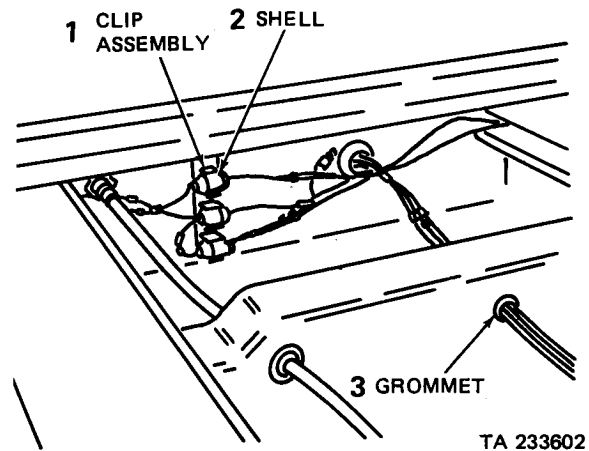

Figure 4-21. Electrical connections at rear of front crossmember (M127 and M127A1)
- (1) Clearance light cables (M127 and M127A1) (figs. 4-21 and 2-22).
- (a) Disconnect connector shell (2) from clip (1).
- (c) Remove grommet from connector shell (2) and pull cable out of shell.
- (e) Release cables where attached to frame with clips, and draw cable out of grommets (3) in frame members.